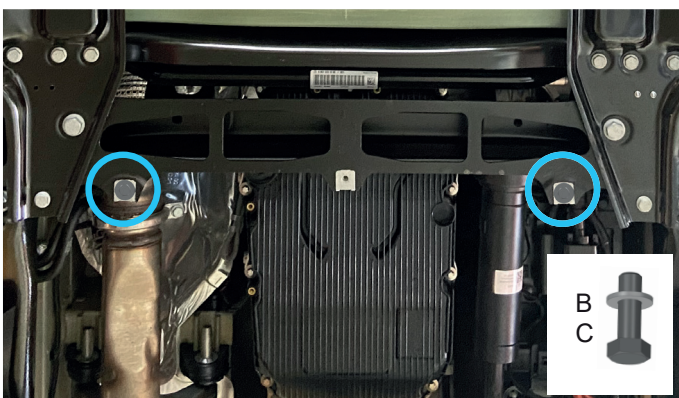

Fig. 5
4. Screw bolts M8x25 and washers M8 (item C, B) on 2-3 turns, as shown in fig.5.